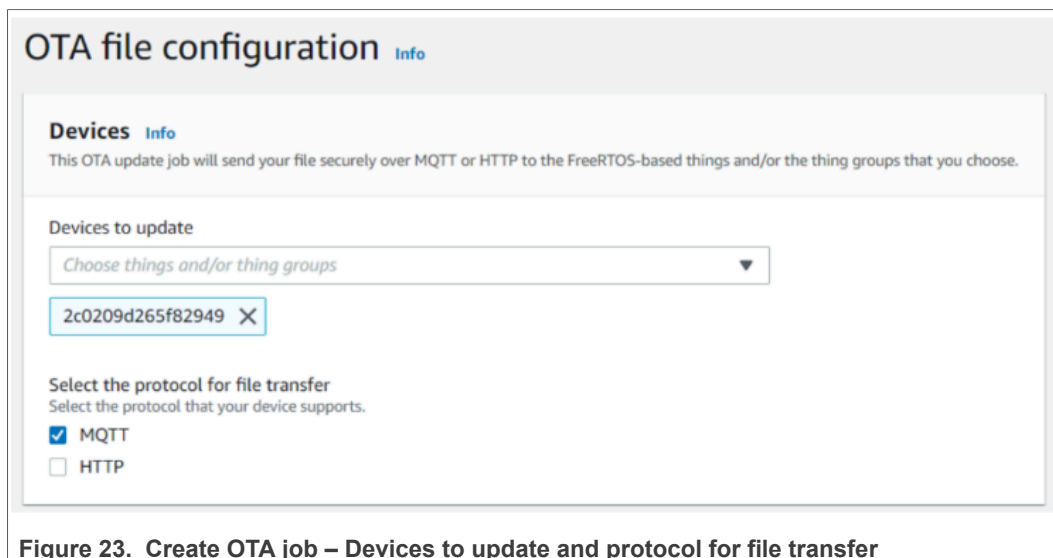

Figure 23. Create OTA job – Devices to update and protocol for file transfer
4. The OTA File Configuration window appears. Specify the serial numbers of the devices to be updated. Select the MQTT option as the protocol for file transfer as shown in Figure 23 :